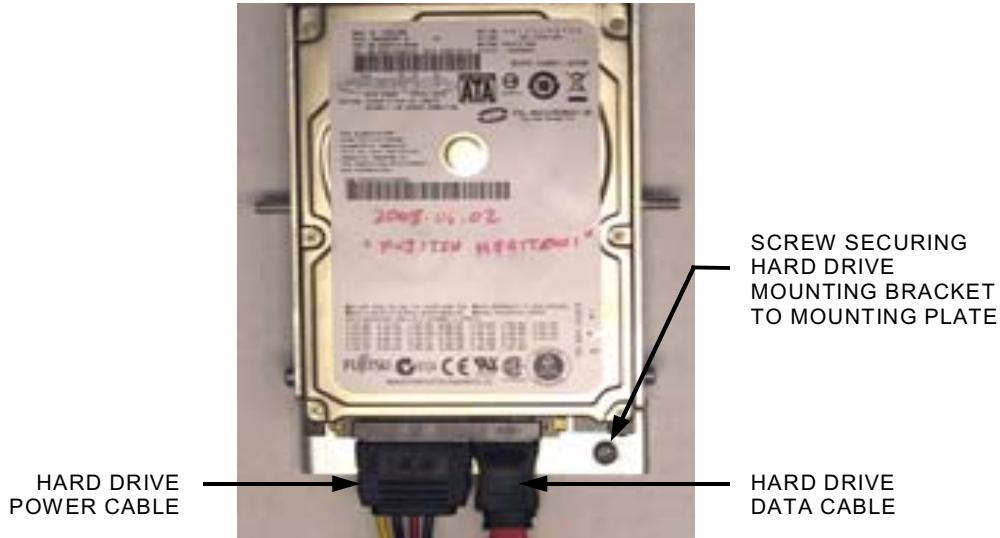

FIGURE 6 - CLOSEUP OF SATA HARD DRIVE
4. Disconnect the hard drive data and power cables from the hard drive (see Figure 6).
5. Remove the screw securing the hard drive mounting bracket to its mounting plate (see Figure 6). Remove the hard drive from its mounting plate by sliding the assembly down and off the mounting plate.
1. Slide the hard drive assembly onto the game's mounting plate and screw it into place to secure it (see Figure 6).
2. Attach the hard drive data and power cables (see Figure 6).